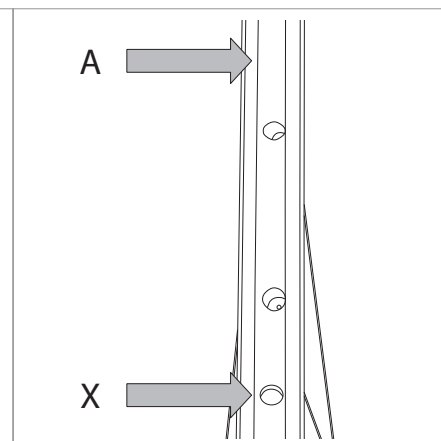

Fig.3
- Start applying the tape between the second and third spoke nipples (A - Fig. 3) after the valve hole (X - Fig. 3). Start applying the tape from A and move towards the valve hole.